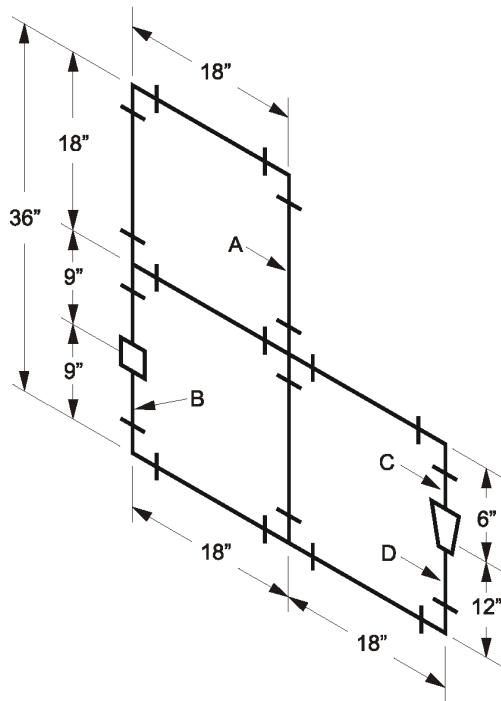

Figure 3-3. Determine the length of the pipes A, B, C, and D.
8. Calculate the length of pipes to cut in Figure 3-3. The NPS of the pipes is 2 inches.